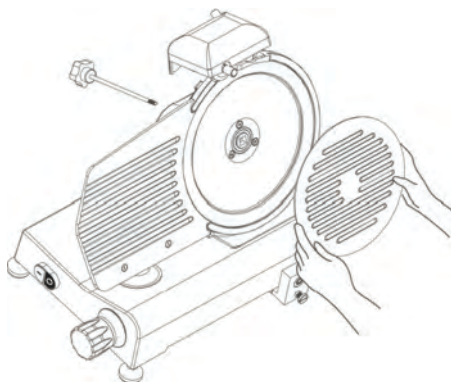

Fig. 4 - Blade guard removal
- Remove the blade guard cover by unscrewing the pin at the back of the appliance (see Fig. 4).